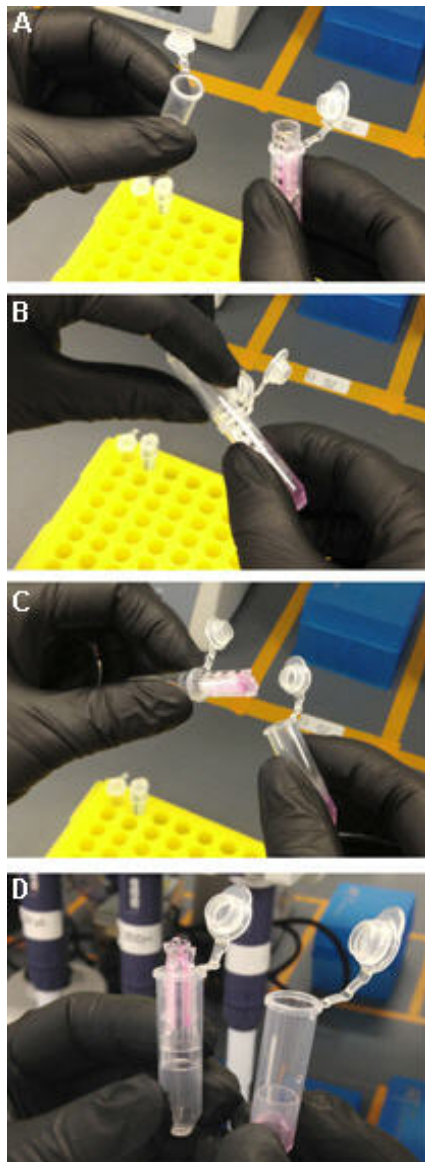

Figure 2 Inversion of the column into a fresh collection tube.
- a** Keep the old collection tube upright throughout this step. With the fresh collection tube in one hand and the old collection tube in the other hand (panel A in Figure 2 on page 42), invert the fresh collection tube and use it as tweezers to grasp the edge of the column (panel B in Figure 2). Pull the column out of the old collection tube (panel C in Figure 2).
- b** Maintain the grip on the column as you flip the fresh collection tube from an inverted to an upright position. Then, release the grip on the column to allow it to slide into the fresh collection tube in the inverted position (panel D in Figure 2). Discard the old collection tube containing the flow-through.